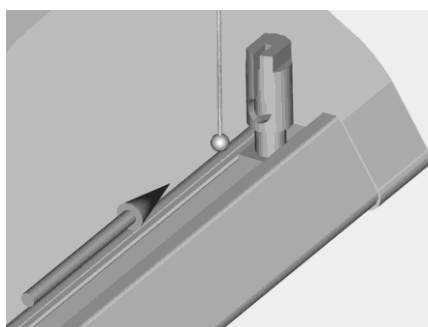

Figure 7 - *Figure 7*
- Installare la plafoniera ancorando i terminali sferici delle funi a Y nelle apposite sedi facendoli scorrere verso l'esterno, come illustrato nelle figure 7 e 8.
- Install the ceiling light fixture by anchoring the spherical endings of the Y wires in the appropriate lodgings, making them slide towards the outside as described in figures 7 and 8.